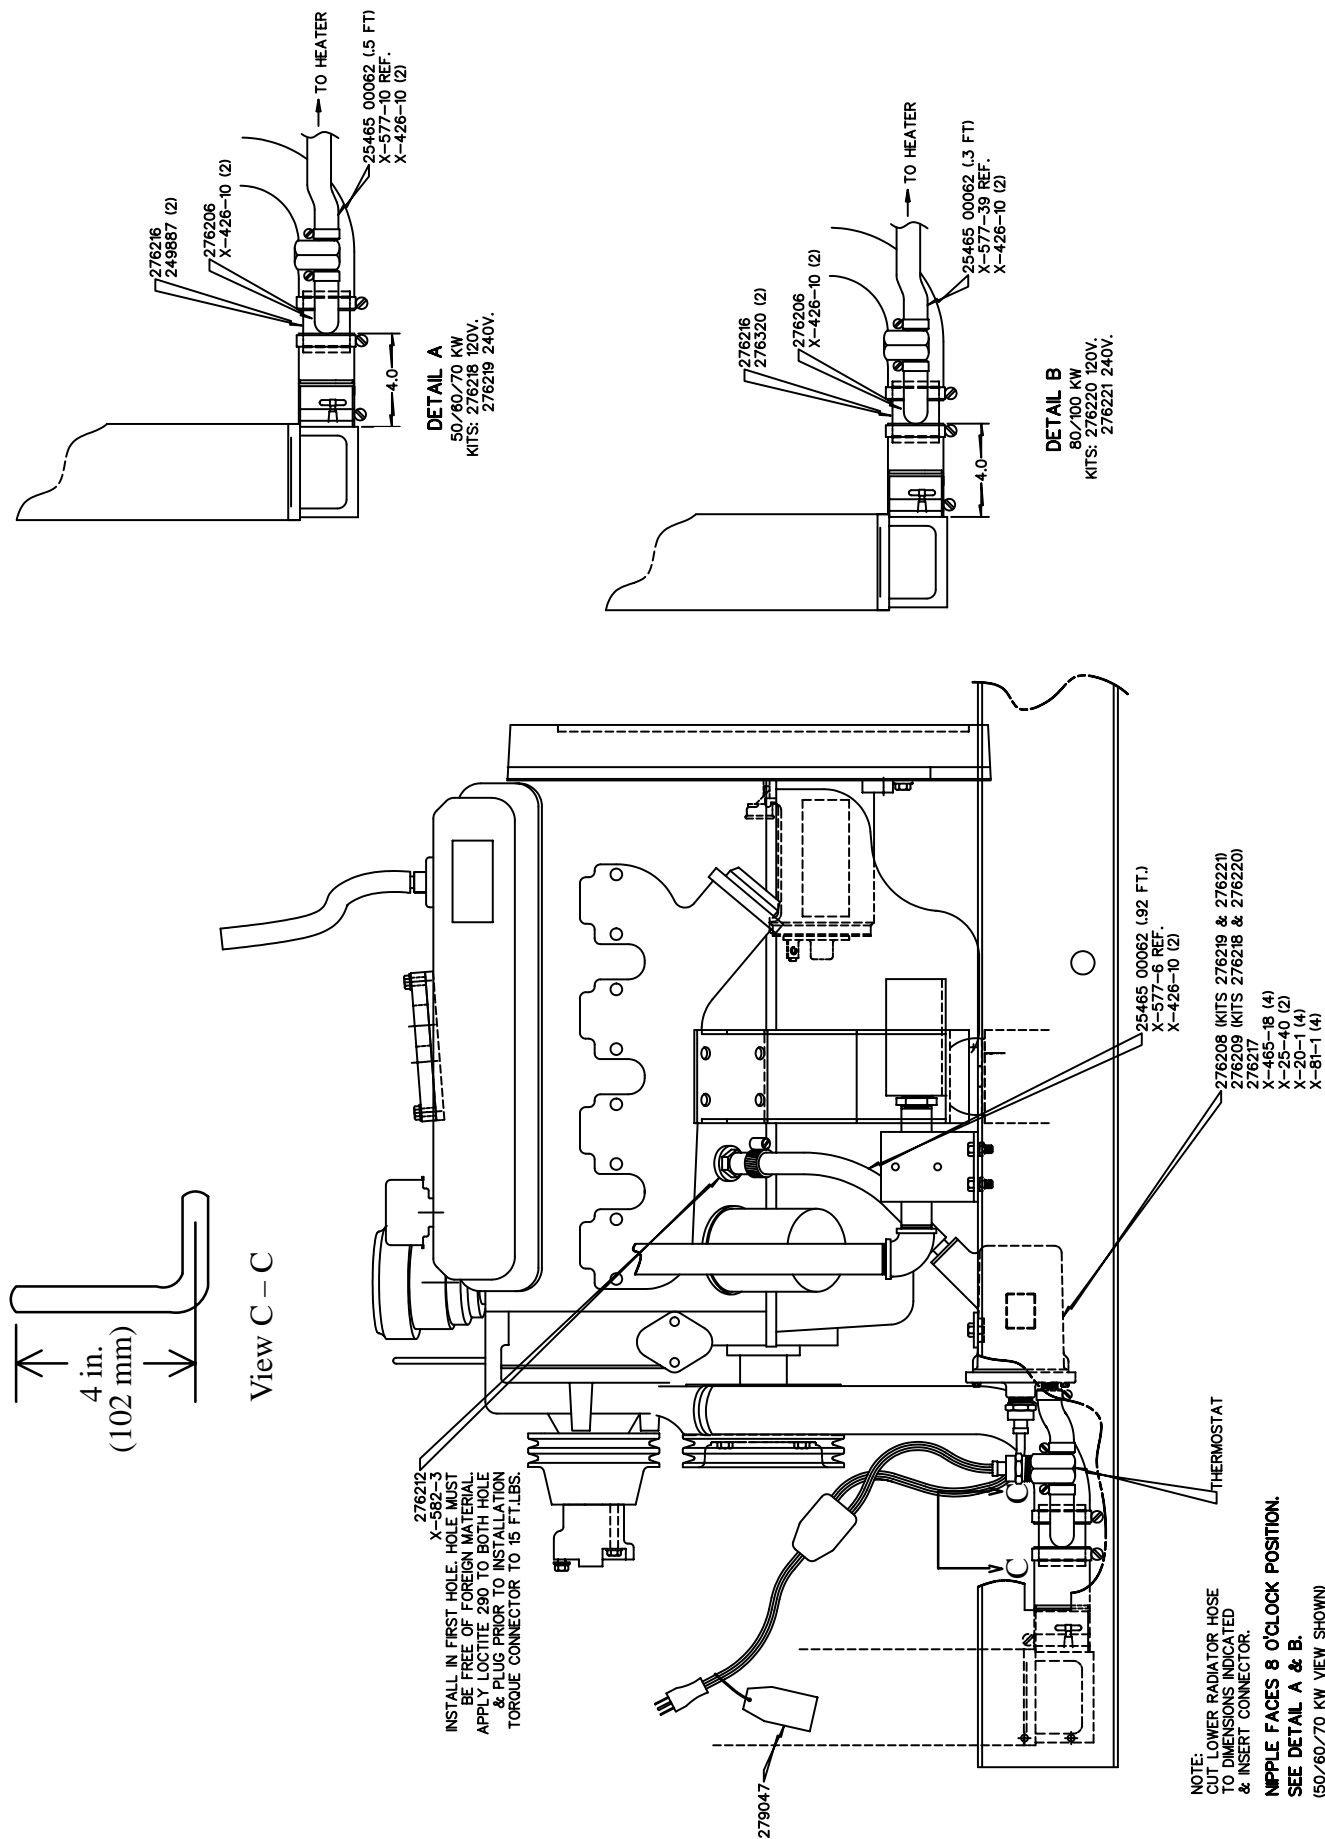

Figure 1. Block Heater Installation
3. Remove freeze plug from engine. See Figure 1 for location. To remove freeze plug, use a freeze plug puller, or puncture center with punch and pry out. Clean hole and remove burrs.
10. Cut molded hose 276206, see Figure 1. Place hose clamps X-426-10 over each end of molded hose. Connect short end to tee hose connector and the other end to thermostat. Thermostat can be installed with either end toward radiator. Locate hose clamps 1/4 in. (6 mm) from end of hose and tighten.